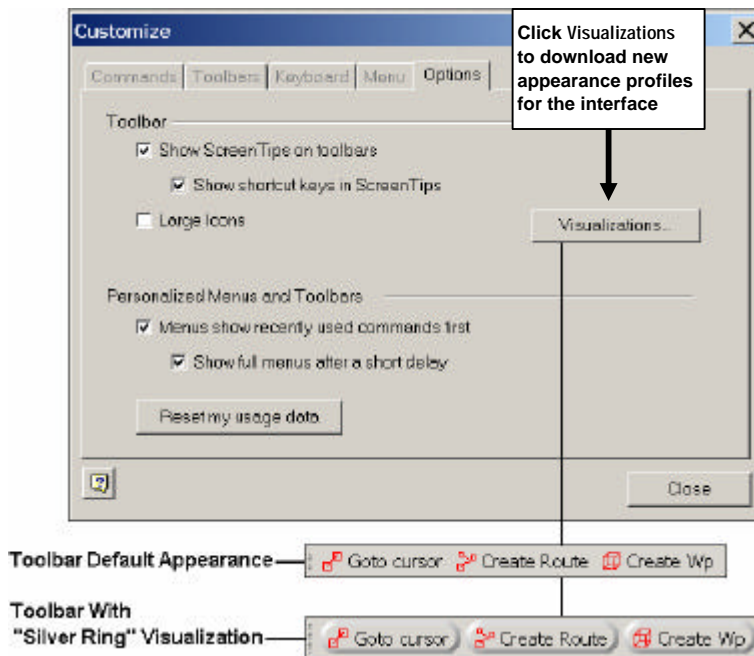

Figure 3-49. Customize Dialog Box Options Tab
2. Click the **Options** tab (Figure 3-49).
3. Check the items you want displayed, or to change the “look and feel” of Navigator’s interface, click Visualizations and follow the instructions given. Figure 3-49 shows an example of a “before” and “after” Toolbar.